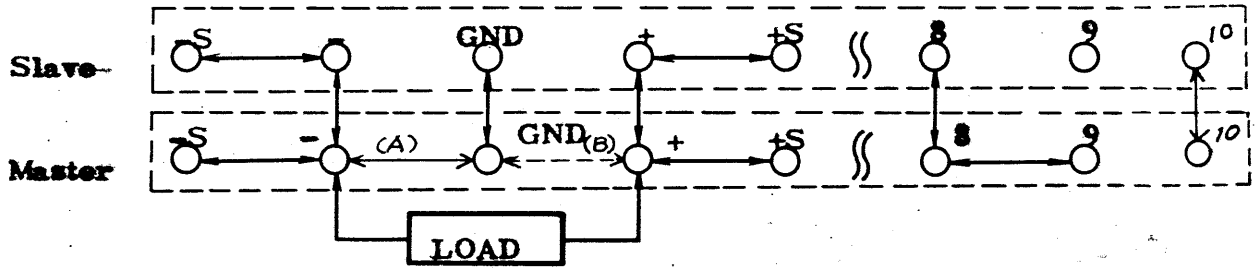

Fig. 8 One-control parallel operation master, slave, load
1. Connect the terminals on the rear panel of the master or slave and the load as shown in Fig. 8.